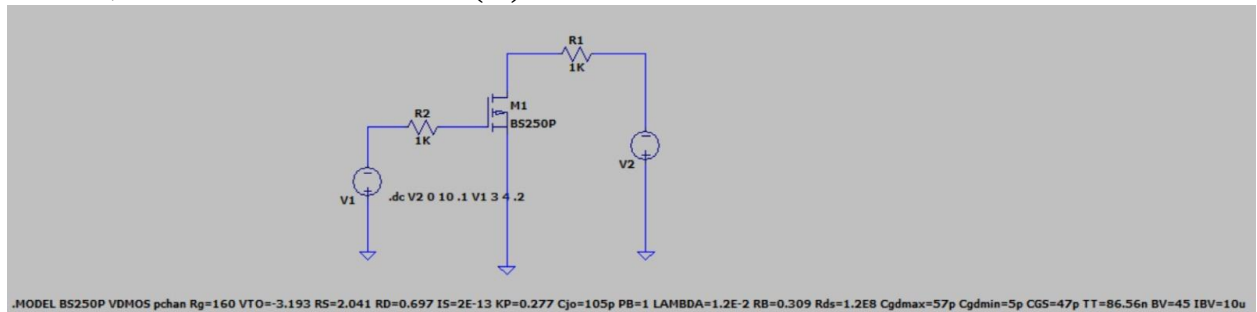

Figure 10: LTspice schematic of PMOS output characteristics circuit
8. Connect the circuit as shown in Figure 10.